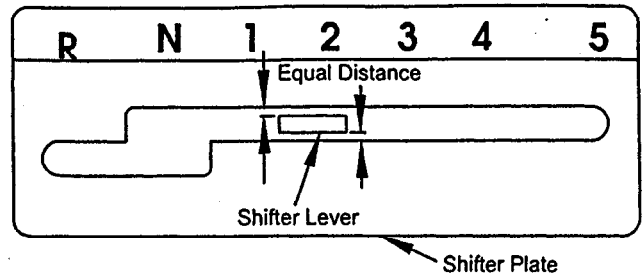

FIG. 9
- b) Shift lever to second gear and check alignment of lever in slot of shifter plate. Clearance between top of lever and the top of the slot should be about equal to the clearance between bottom of the lever and the bottom of the slot (See Figure 9). If it is not, remove lever and bend it slightly to adjust. *DO NOT* bend lever while it is attached to transmission. Reinstall lever and tighten hardware.